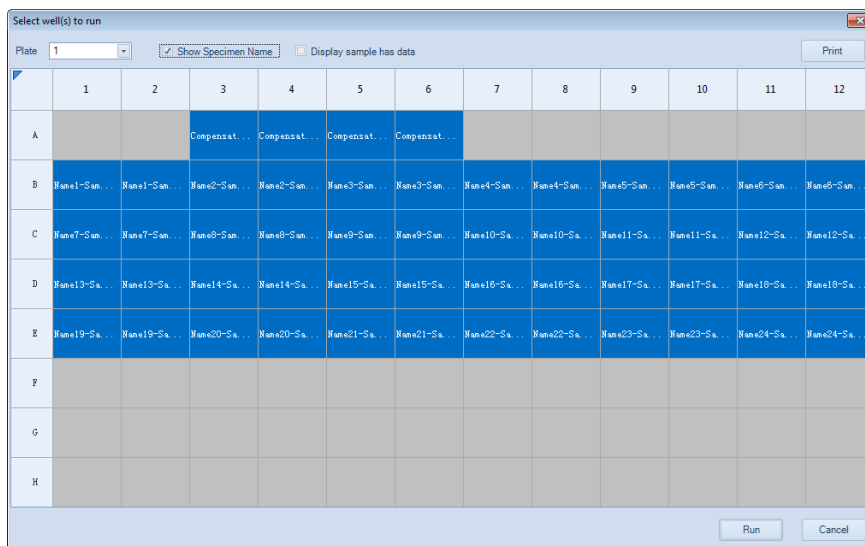

Figure 3-11 Window for Selecting Wells to Run
- 2** In the *Cytometer Control* panel, click the *Run Plate* button . The *Select well(s) to run* window will open as shown in Figure 3-11. In the window, select the wells to be collected. Wells selected for collection will be displayed in blue, unselected wells will be displayed in white, and wells that are not available for collection will be displayed in gray. In this experiment, select all of the samples from A3 to E12. Click the *Run* button to begin sample acquisition. The selected samples will be collected in the order listed in the *Work List*.